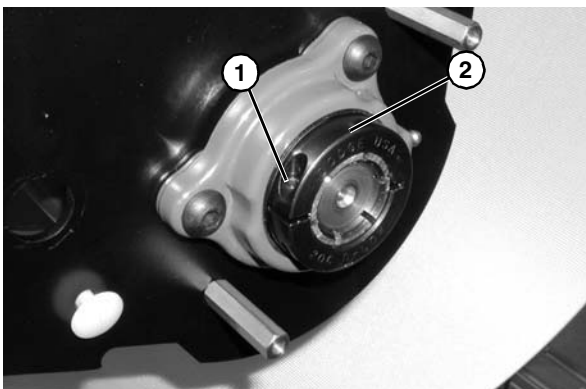

Figure 92
3. Loosen clamp screw (**Figure 92, item 1**) and remove bearing collar (**Figure 92, item 2**).
7. Reinstall bearing collar (**Figure 92, item 2**). Tighten clamp screw (**Figure 92, item 1**) to 95 in-lbs (11 N-m).